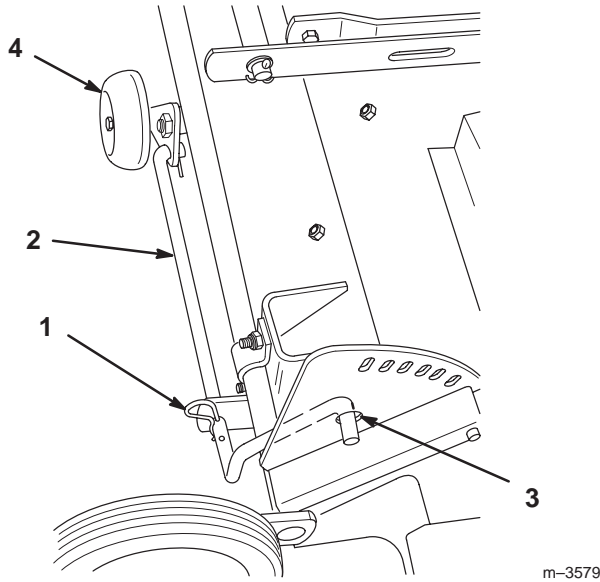

Figure 22
- B. Remove the hairpin cotter from the wheel rod (Fig. 22).
- C. Pull the rod toward the outside of the mower, insert the end of the rod into the hole in the height-of-cut plate, and install the hairpin cotter into the second hole of the wheel rod (Fig. 22).